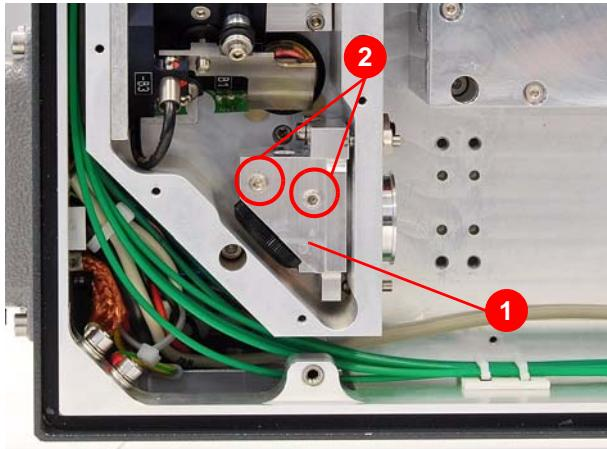

Figure 7.37 Removing the lower deflecting mirror (1)
- Dismantle the retaining block (1) (Figure 7.37) for the lower deflecting mirror after first loosening the two fastening screws (2).